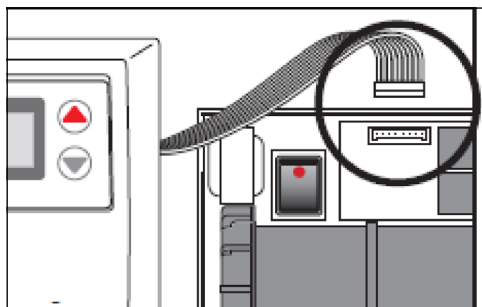

Fig. 10
- ▶ **Reconnect the plug between the base and cover before reconnect the cover (Fig. 10)**
- ▶ Retire el tapón entre la base y la tapa (→Fig. 10).